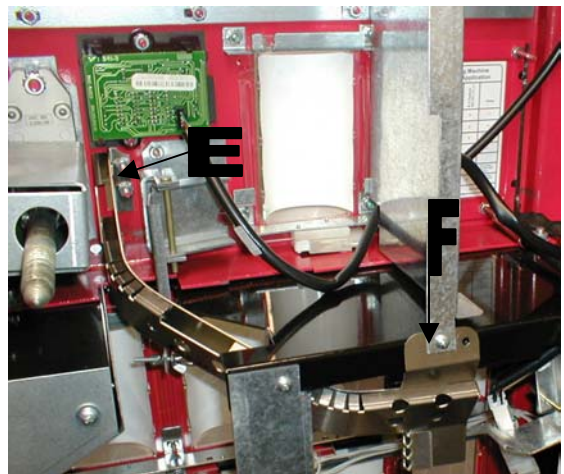

Figure 2
6. Remove the two (2) keps nuts securing the existing Coin Chute Assy. to the back of the Coin Insert. See "E" Figure 2.
8. Place new Coin Chute Assy. in position. Note: the Coin Chute Assy. should go under the horizontal bulkhead. See Figure 2.
9. Secure Coin Chute Assy. to the Coin Insert with the two (2) keps nuts removed in step 6. See "E" Figure 2.
10. Install the first screw as shown in "F" Figure 2.
11. Check the Coin Chute Assy. alignment with the changer, then install the second screw to secure. See Figure 2.